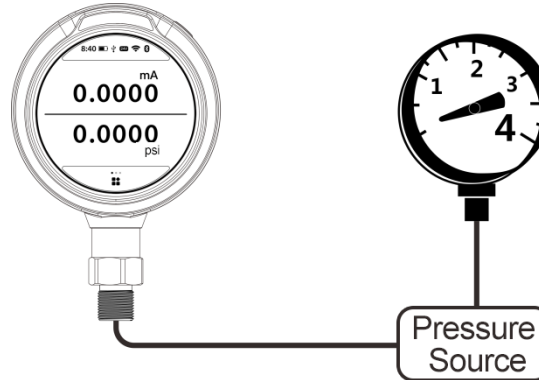

Figure 12 Calibrate Dial Pressure Gauge
- (1) Refer to Figure 12, connect the calibrator with the dial pressure gauge;